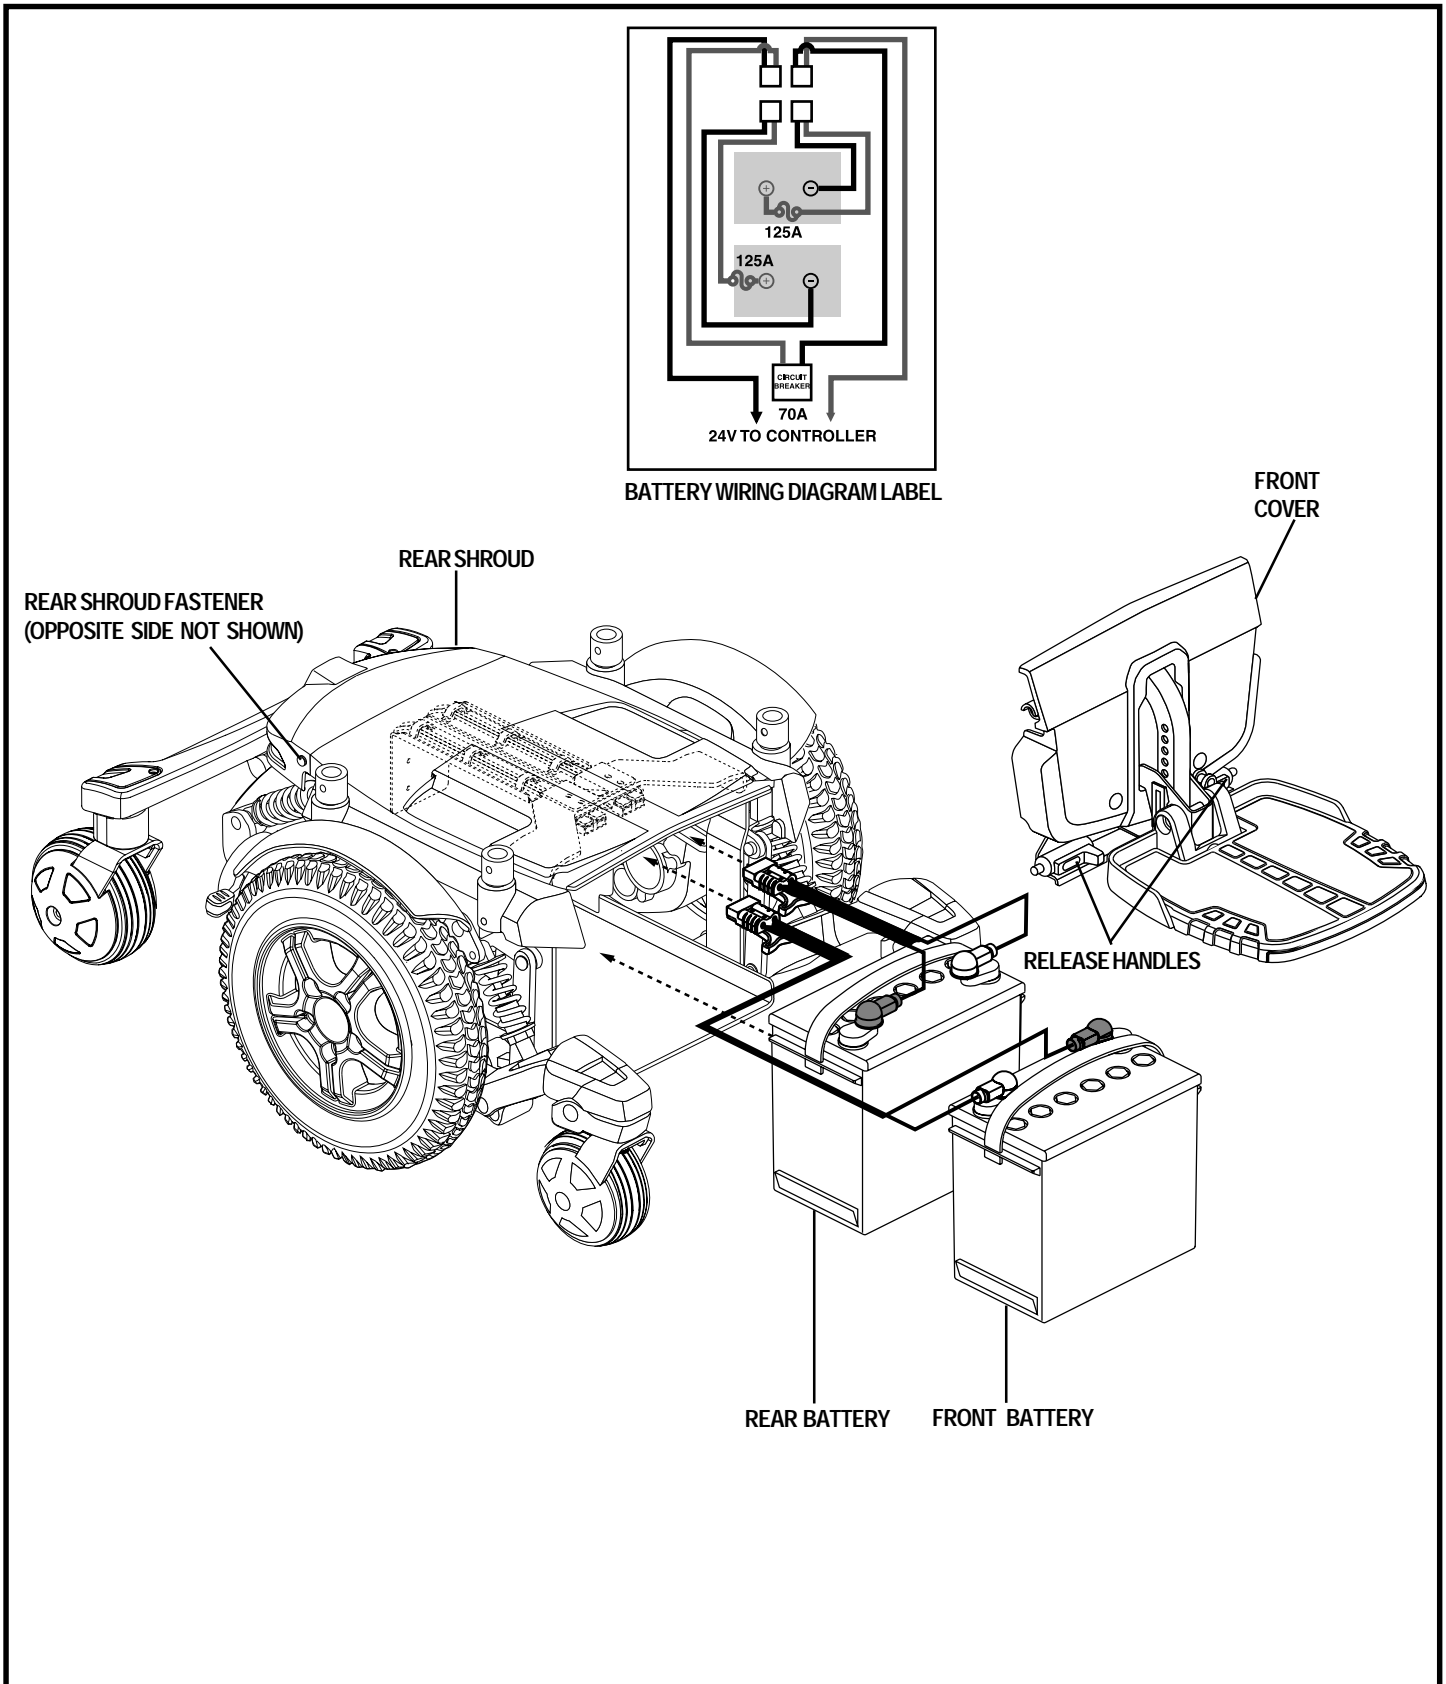

Figure 32. Battery Installation
3. Remove the foot platform by squeezing the release handles (see figure 32) and lifting the foot platform bracket up and out.
7. Connect the battery harness to the front battery according to the battery wiring diagram. See figure 32.
8. Connect the battery harness to the rear battery according to the battery wiring diagram. See figure 32.